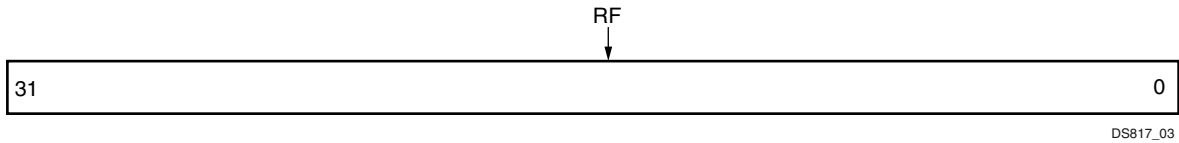

Figure 3: Read FIFO (RF)
The Read FIFO (RF) register shown in Figure 3 is a 32-bit Read FIFO. The bit definitions for the Read FIFO are shown in Table 6. The offset and accessibility of this register from C\_BASEADDR value is as shown in Table 4.